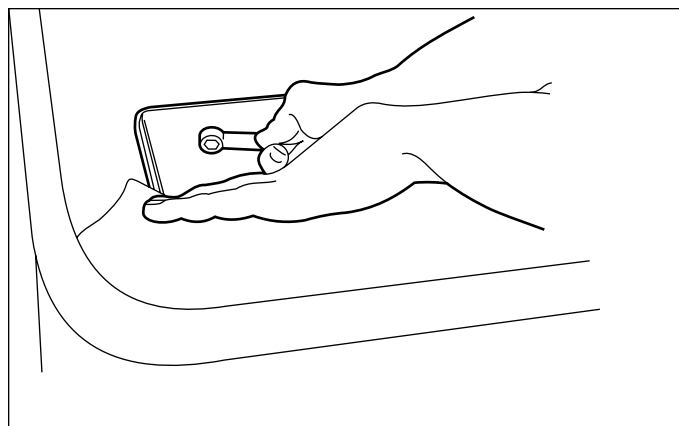

Figure 20. Installing Hardware Inside the Hopper
3. See Figure 20. From the inside of the hopper install one 5/16-18 x 3/4 hex head bolt, 5/16 lockwasher, and 5/16 flat washer into each of the upper and lower holes of the metal hopper liner. Finger tighten only at this time.